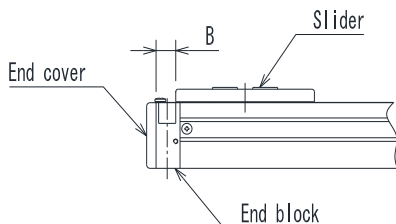

Fig. 6.5-1
- (1) Specify "0" for the motor revolving direction of Parameter 2.
- (2) Adjust the home position. As in Para. 5.4 above, the position "B" mm away from the end block should be the home point. (See Fig. 6.5-1.)